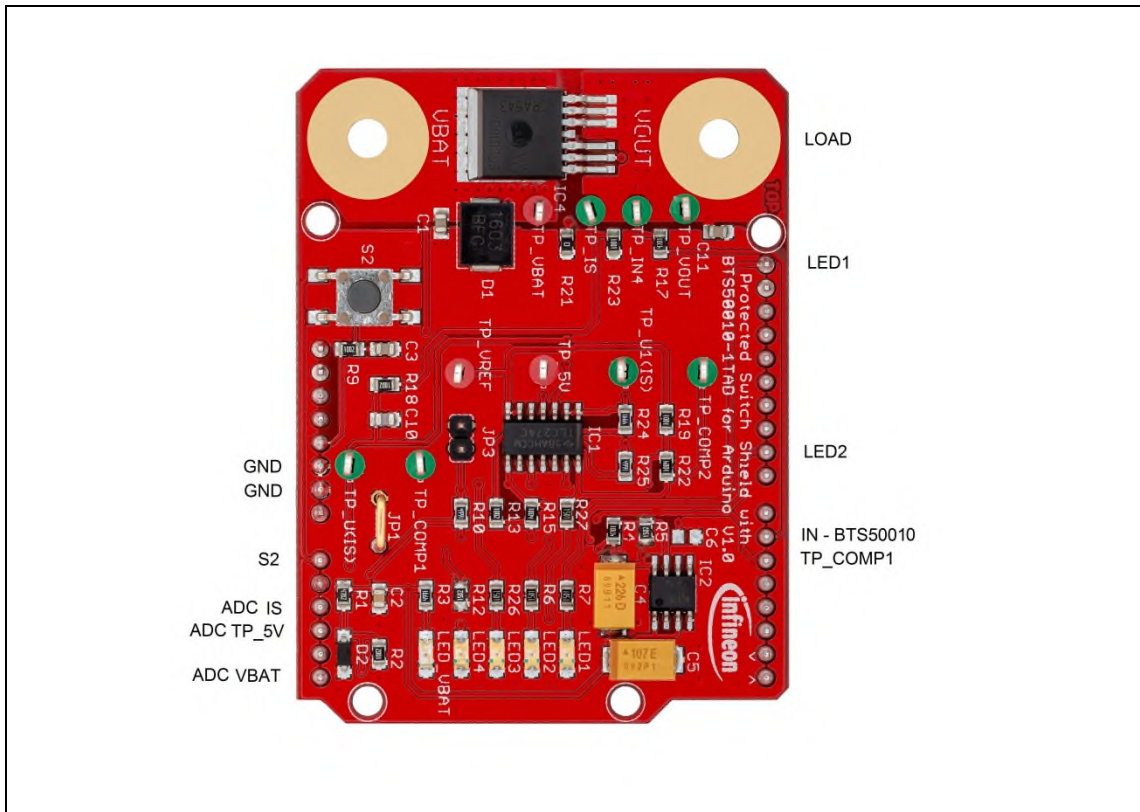

Figure 6 High Side Switch Shield connectors
As mentioned before the High Side Switch Shield can be operated in two ways, in the stand alone mode (Shield only) or together with an Arduino controller board like the XMC1100 Boot Kit. All necessary control and sense signals can be applied directly at the Arduino™ connectors. The pin IN from BTS50010-1TAD uses a comparator with hysteresis. The switching ON / OFF takes place in a defined region, set by the threshold  $V_{IN(L) Max}$  (0.8V) and  $V_{IN(H) Min}$  (2.2V), therefore the pin IN can be driven by any other microcontroller or with logic level signals. Since the maximum input voltage at the pin IN can be  $V_{BAT}$ , a very flexible usage of the Shield is possible. Besides the supply voltage  $V_{BAT}$  has to be provided to the  $V_{BAT}$  connector. Figure 6 shows the pinout/connectors of the High Side Switch Shield.